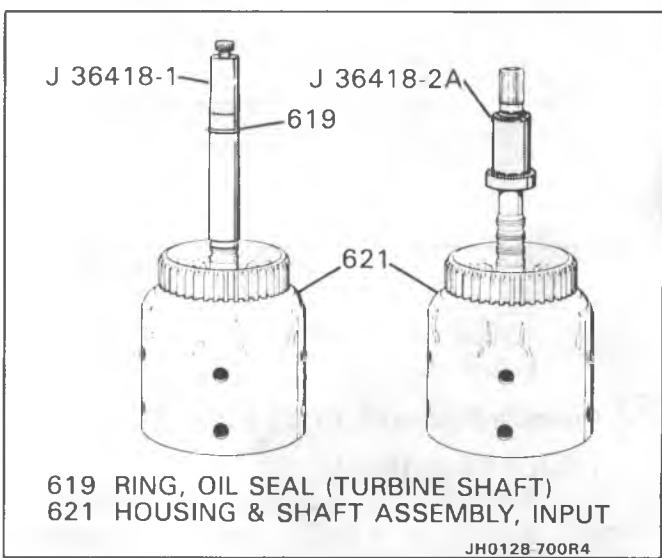

Figure 80 Turbine Shaft Oil Seal Rings
**Assemble (Figure 80)****TOOLS REQUIRED:**